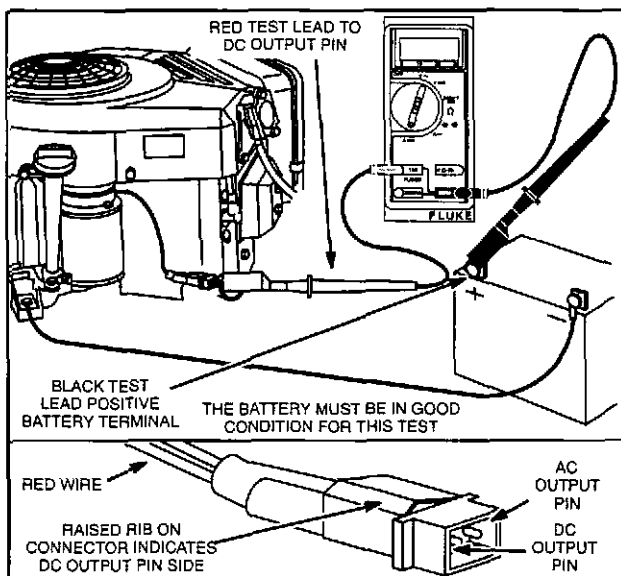

Fig. 14 - Testing DC Output
4. Attach RED test lead clip to DC output pin in connector, Fig. 14.